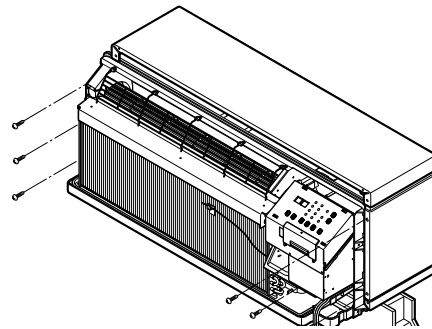

Figure 22
3. Slide the unit into the wall sleeve and secure with 6 screws through the unit flange holes. (See Figure 22)